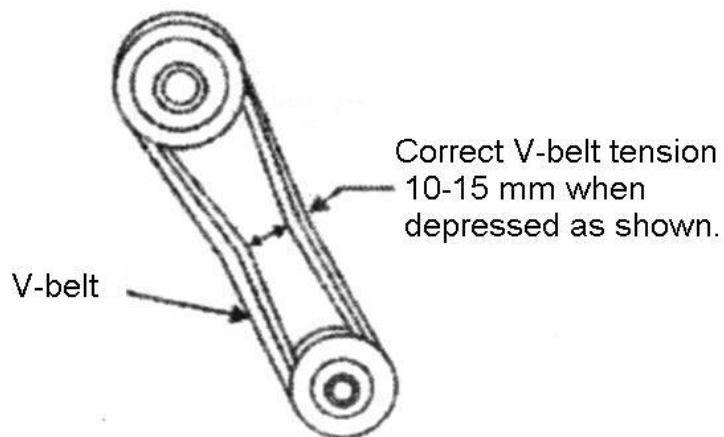

Figure 8.V-belt Tension
3. The V-belt tension is proper if the V-belt bends 10 to 15 mm (Figure 8) when depressed with finger at midway between the clutch and vibration pulley shafts.